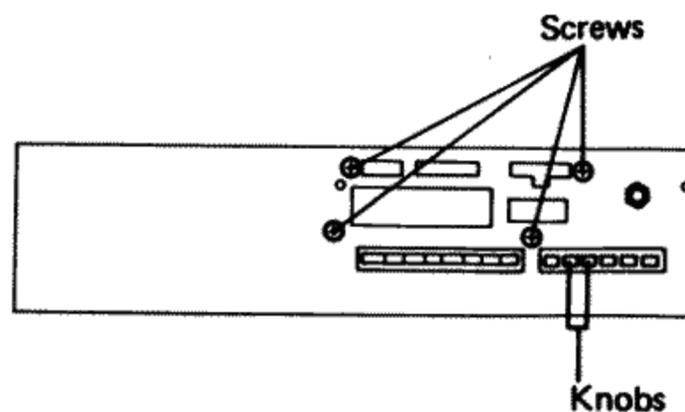

Figure 3
2) Remove knobs and screws as shown in Figure 3.